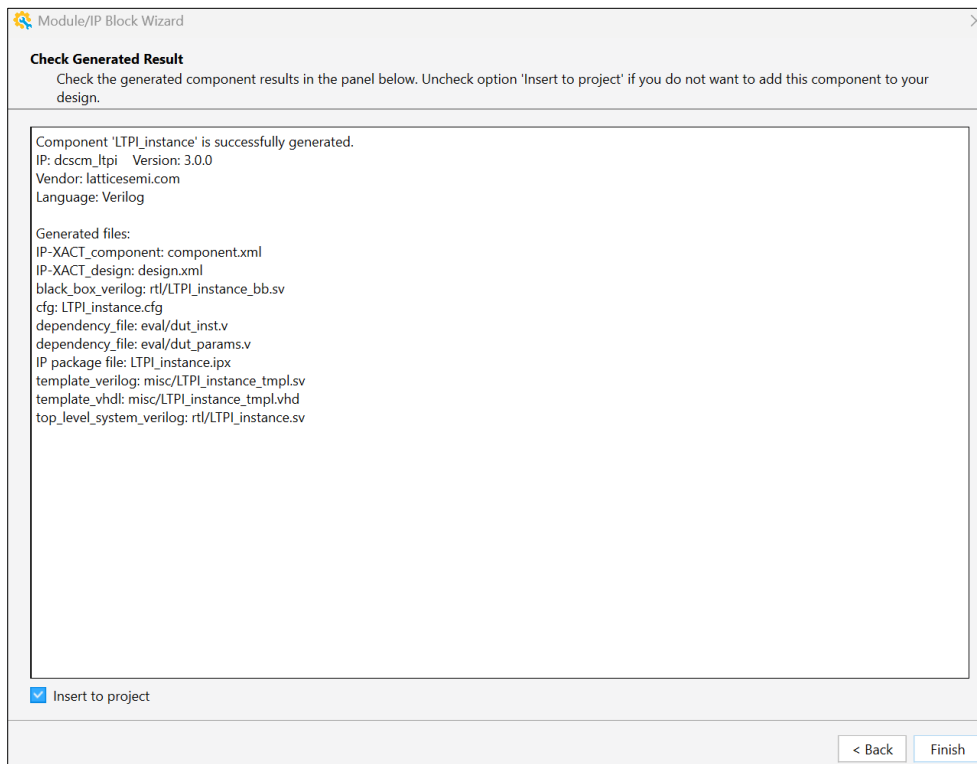

Figure 7.3. Check Generated Result
- Click **Generate**. The **Check Generating Result** dialog box opens, showing design block messages and results, as shown in Figure 7.3.